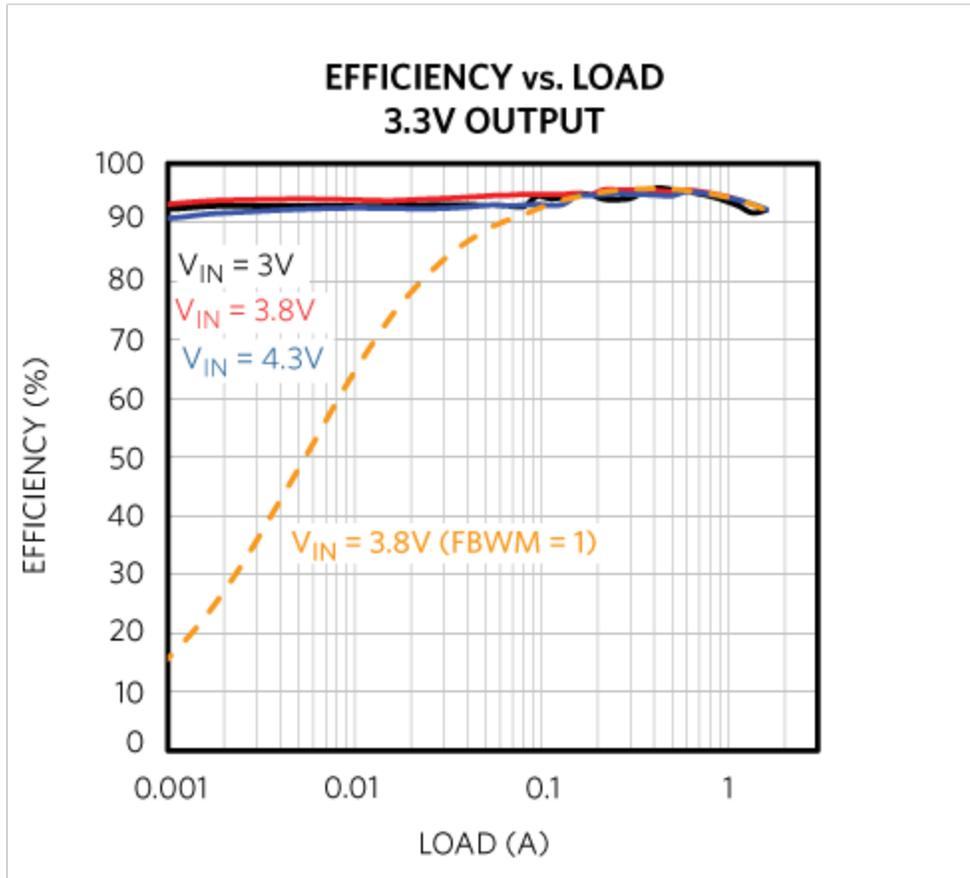

Figure 5. MAX77827 buck-boost efficiency curve.
**Figure 5** shows the efficiency curve of the buck-boost converter with a 3V to 4.3V input and a 3.3V output. Synchronous rectification at high load and pulsed operation at light and ultra-light load ensures high efficiency across a wide operating range regardless of buck or boost mode operation. An  $I_Q$  of 6µA and a 96% efficiency at 500mA makes the IC ideal for a wide range of NB-IoT tracking applications.